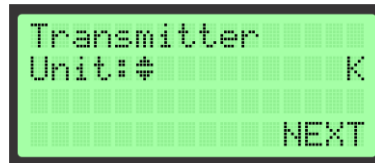

Figure 79 Changing Output Measuring Unit
The user can navigate through this submenu by using Up (▲) and Down (▼). By pointing to the submenu item and by pressing Enter (E) the user will select parameters which he/she would like to adjust. Pressing Enter (E) will also confirm the adjusted value. Inside this submenu, the user can adjust measuring units of the simulated output parameter (See Figure 79).